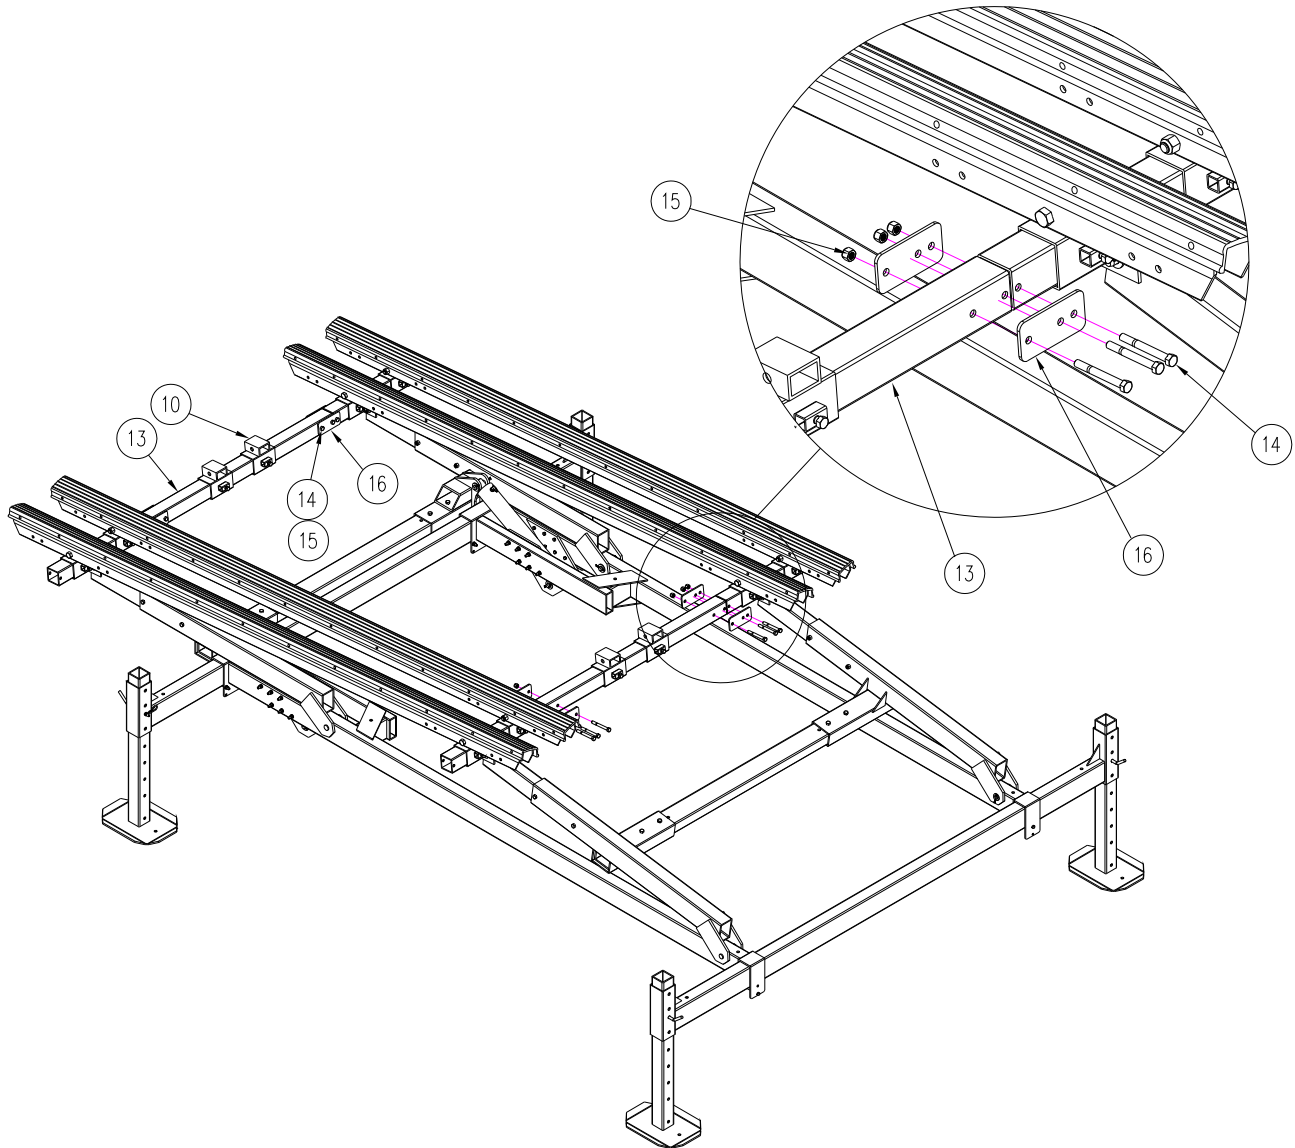

Figure 2-7A.
1. Refer to Figure 2-7A. This section provides instruction to assemble center tube support assembly on the HL lift for Tritoon Boat with three equal diameter Toons.